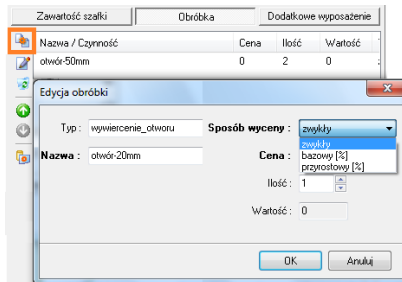

Fig. 305 – adding a processing item to the valuation
- **Add item processing**  – adds a new processing item (Fig. 305);